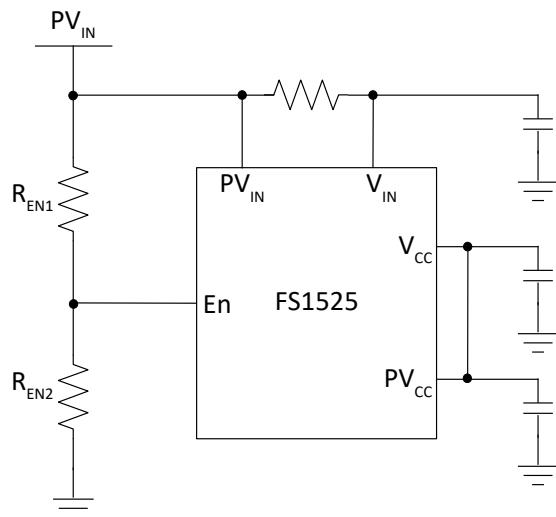
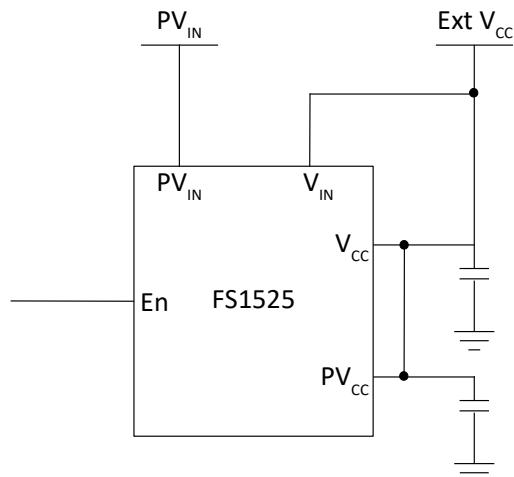

Figure 5 Single supply configuration: internal LDO regulator, adjustable PV_{IN}_UVLO
Figure 6 Using an external bias voltage
The FS1525 has an integrated Low Drop-Out (LDO) regulator providing the DC bias voltage for the internal circuitry. The typical LDO regulator output voltage is 5.2V. For internally biased single-rail operation, the V_{IN} pin should be connected to the P_{VIN} pin (Figure 5). If an external bias voltage is used, the V_{IN} pin should be connected to the V_{CC} pin to bypass the internal LDO regulator (Figure 6). There is a separate pin to provide bias for the drivers (P_{VCC}); this should be connected to V_{CC} in the application circuit. It is recommended that V_{IN} should have a minimum slew rate of 0.06V/ms. Note that P_{VIN} has internal undervoltage detection that latches the device if P_{VIN} drops below 4.2V.
- It can be used to implement a precise input voltage UVLO. The input of the En pin is derived from the PV_{IN} voltage by a set of resistive dividers, R_{EN1} and R_{EN2} (Figure 5). Users can program the UVLO threshold voltage by selecting different ratios. A useful feature that stops the FS1525 regulating when PV_{IN} is lower than the desired voltage, this may be used for finer control over the PV_{IN} UVLO voltage levels than is provided by the VIN_ON/VIN_OFF commands.